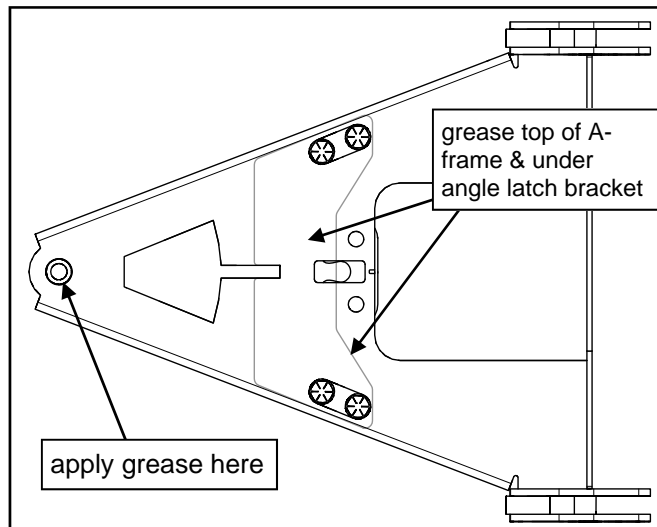

Fig. 3.1 (A-Frame Prep)
3.1 Locate the A-frame. See Fig 3.1. Apply all-season grease to the top and bottom surface of the A-frame around and in the 1/2" bolt hole. Grease should extend about an inch away from the center of the hole. Also, apply grease to the under side of the angle latch bracket in the area where it will contact the trip frame.